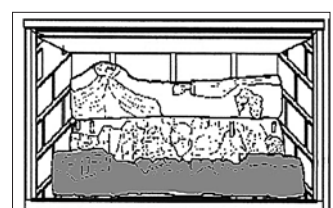

Figure 37 Front log
3. Place the front log at the front of the firebox. See figure 37.